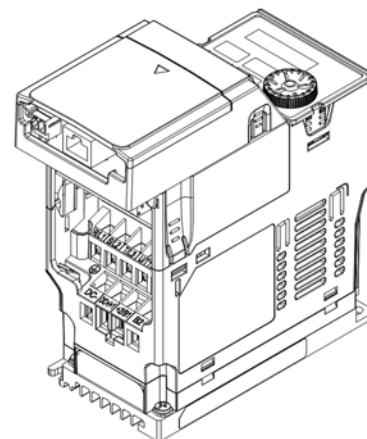

Figure 8-31
9. As shown in the Figure 8-31, assembly is completed.